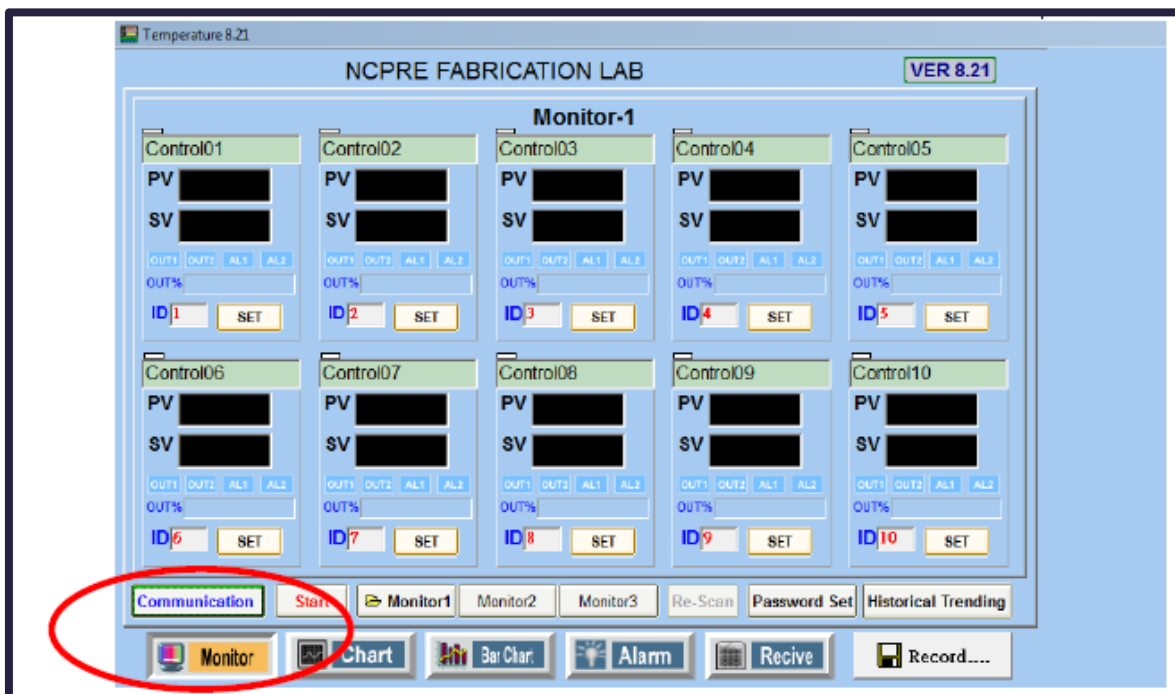

Figure. 15
3. Ensure the “Communication Settings” in software are in sync with the actual connection between the computer and the hardware of the furnace temperature controller. Click on “Communication” tab of the “Monitor” tab (Figure. 15).